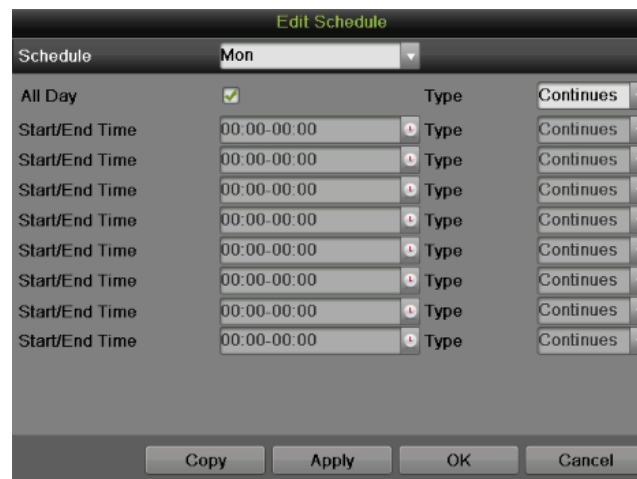

Figure 68 Edit Schedule Menu
- 1) Click the Edit button on the bottom right to pop-up the Edit Schedule menu, as shown in Figure 68.